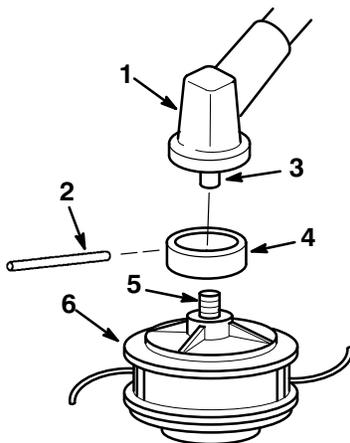

Figure 9
IMPORTANT: The boss adapter must be installed on the splined shaft between the gearcase and the trimmer head as shown in Fig. 9.
1. Install the boss adapter onto the splined shaft out of the gearcase (Fig. 9).
2. Align the hole in the boss adapter with the hole in the gearcase (Fig. 9).
3. Insert a nail into the holes in the boss adapter and gearcase to lock the splined shaft (Fig. 9).
4. Remove clear tube and thread trimmer head adapter into the splined shaft, then tighten the trimmer head firmly by hand (Fig. 9).